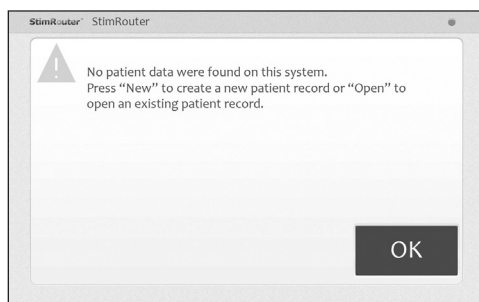

Figure 7-1: Unassigned system detected
2. If the patient's External Stimulator is unassigned, then the software should automatically prompt that no patient data was found on the system. Press the "OK" button. **See Figure 7-1.**
2. If the External Stimulator is unassigned, then the software should automatically prompt that no patient data was found on the system. Press "OK". **See Figure 7-1.**